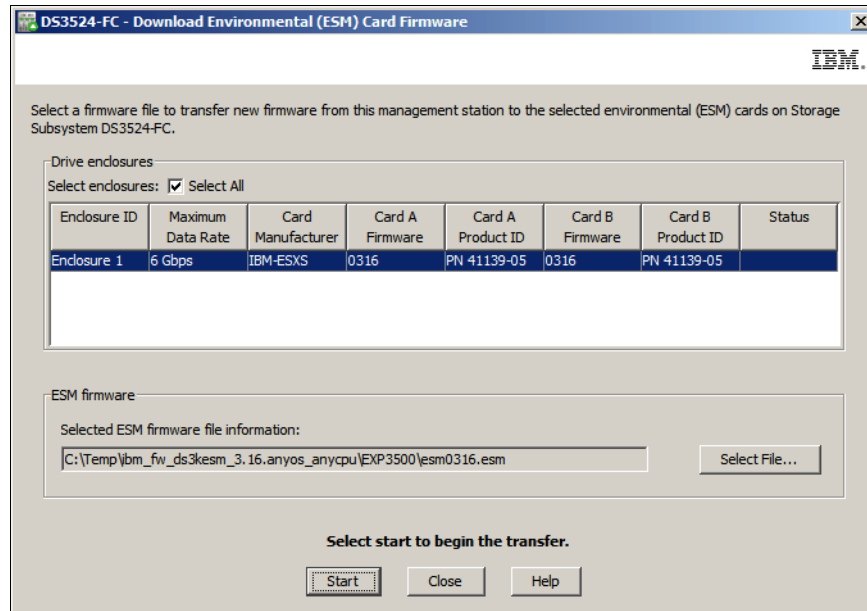

Figure 14-49 Download Environmental (ESM) Card Firmware
1. To update the ESM code, open the Download Environmental (ESM) Card Firmware window by clicking **Upgrade** → **ESM Firmware**. Figure 14-49 shows the window.